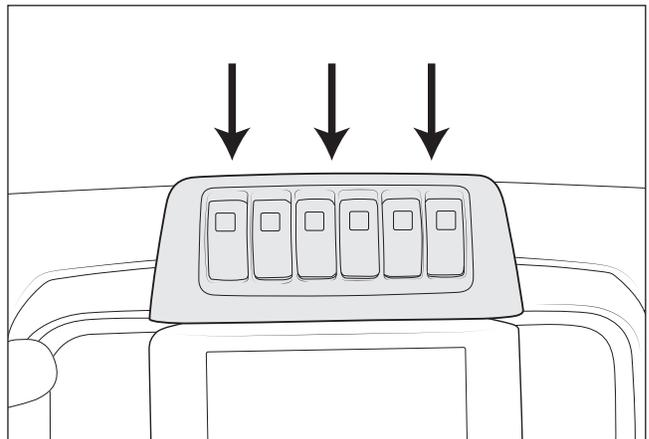

Figure 7
5. Place switch and bezel assembly onto the base. Make sure it is nested correctly on the base and secure with three #10 phillips head screws (fig. 7).